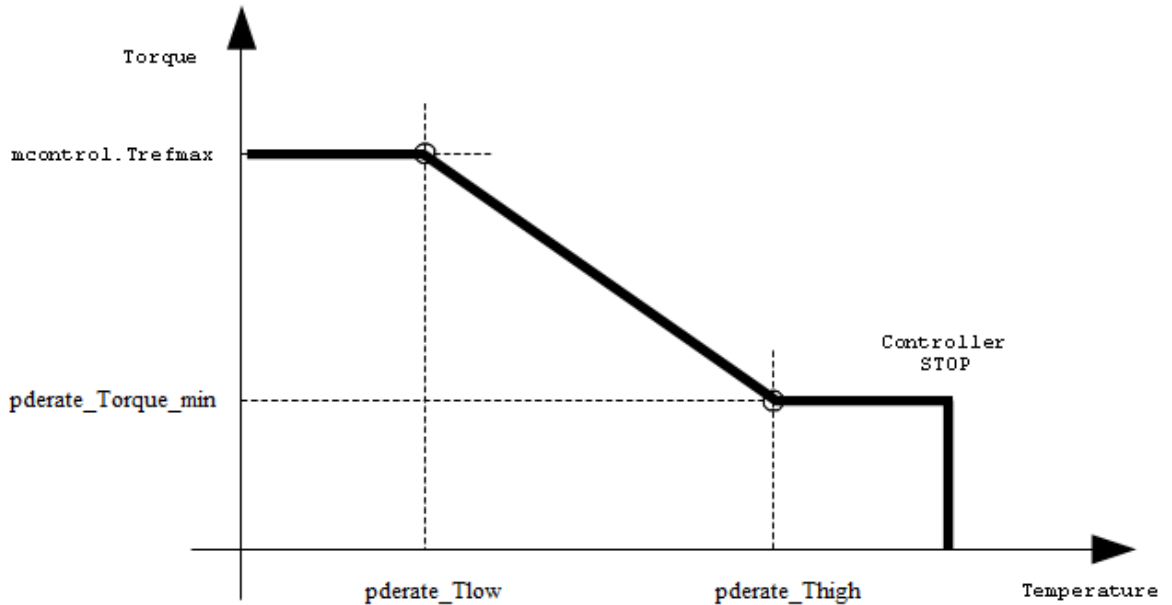

Fig.2: Power derating with associated parameters
- a) Remove the Top cover of the terminal strips and unscrew the cable glands No3 (Fig.2). Insert the motor cable through and mount the shield and connect the motor wires (U, V, W) to the corresponding terminal. Motor PE wire (yellow-green wire) can be connected to the terminal or screwed directly to the housing (Fig.2).